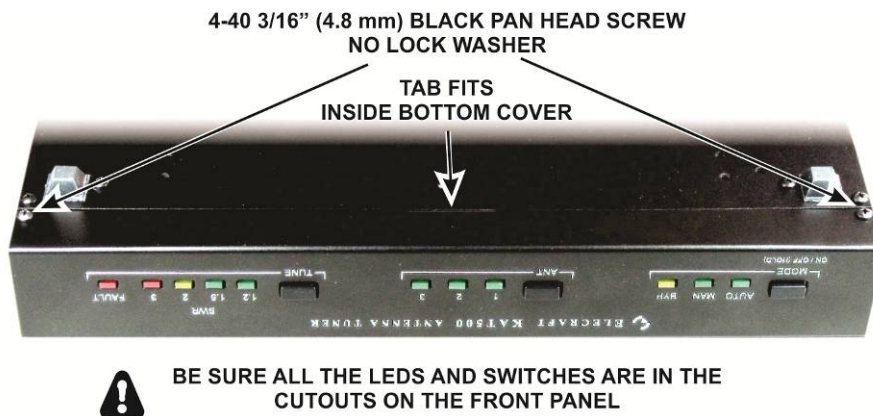

Figure 35. Mounting the Front Panel.
□ Turn the KAT500 upside down on your table and mount the front panel as shown in Figure 35. Be sure that all of the LEDs and switches pass through the openings in the front panel and that the tab at the center of the front panel fits under the bottom cover, just as on the rear panel.